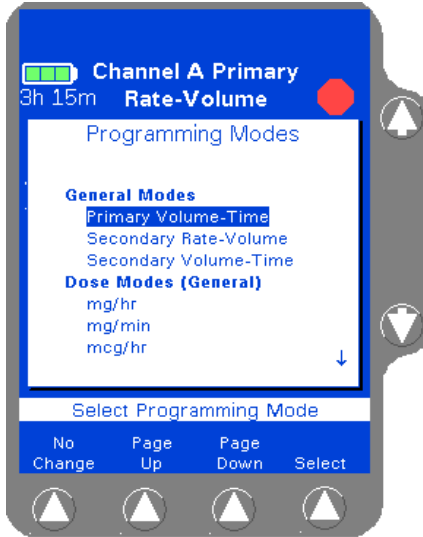

Figure 4-28 Programming Modes Menu
2. Press the **Change Mode** soft key. The Programming Modes menu is displayed (Figure 4-28).